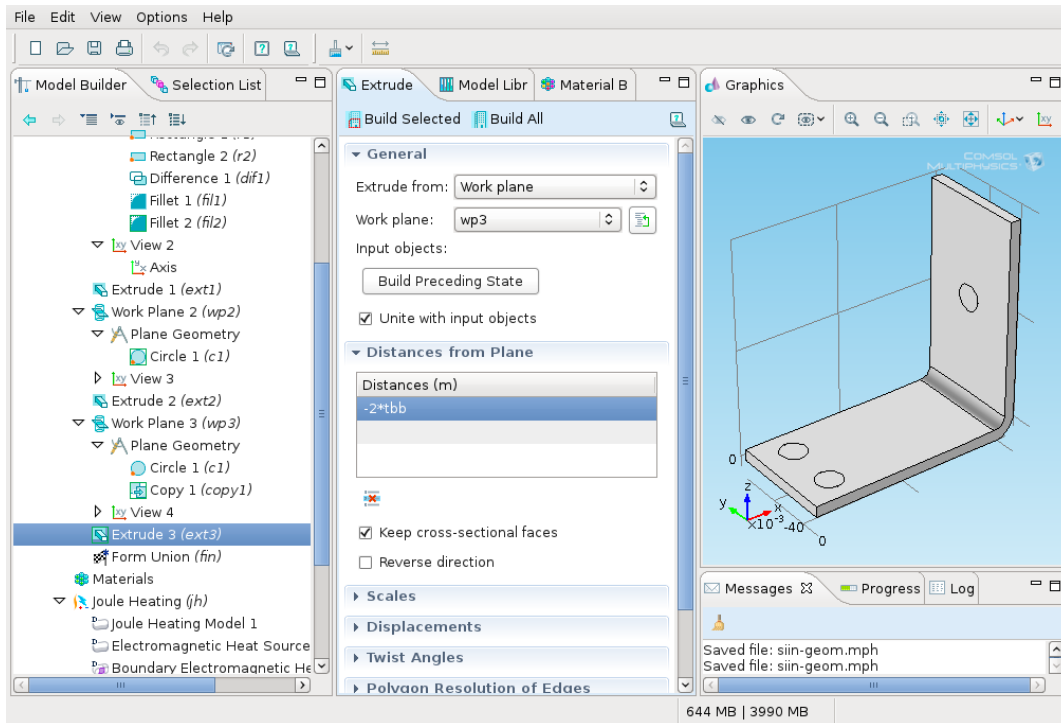

Figure 27: Extruding the polts.
- Extrude the polts (Fig. 27):